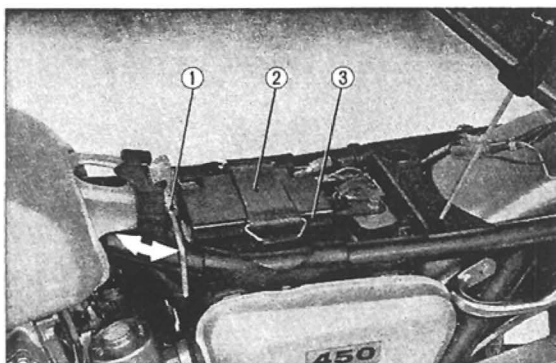

Fig. 6.41
- ① Torque wrench
- a. Access to the battery is by releasing the seat latch ① on the front end under the seat and raising it at the front. Use the stay which is attached to the under side of the seat to hold the seat in the raised position. (Fig. 6.41)